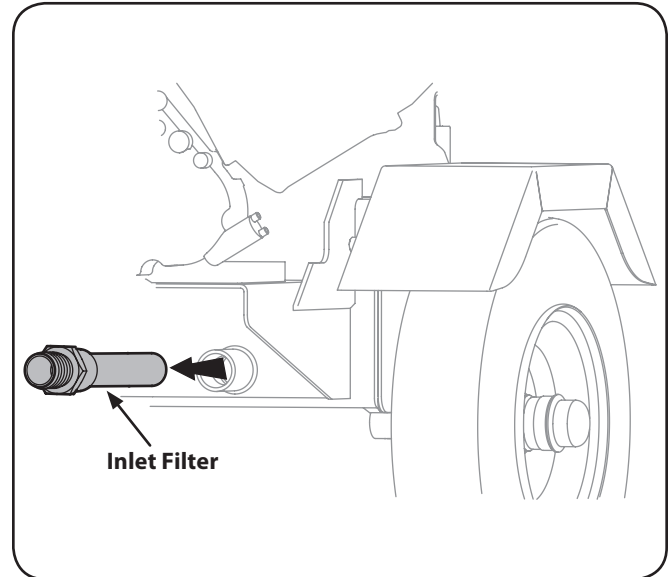

Figure 6-2
3. Carefully unthread the inlet filter and clean it with penetrating oil. See Figure 6-2.